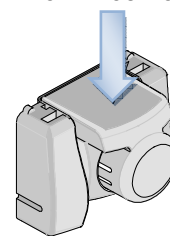

Figure 2-9
2. Press the red insert down as far as it will go. See Figure 2-9.
4. While holding onto the lower part of the locator with your thumb and index finger, insert the locator top hooks (2) into the Power Crimp Head top slots.